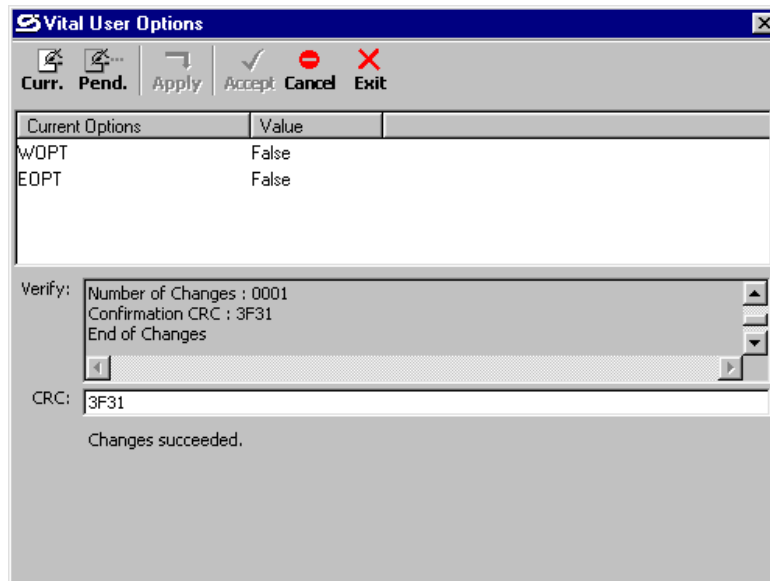

Figure 3-44
11. Click on the **Accept** button at the top of the display to finalize the changes. After the changes are accepted, the phrase “Changes succeeded” appears below the CRC text box (see figure 3-44). The changes are now held internally by the GEO unit but have not been applied and have not been enforced in the CIC. Note that the **Accept** button is disabled after being clicked on.